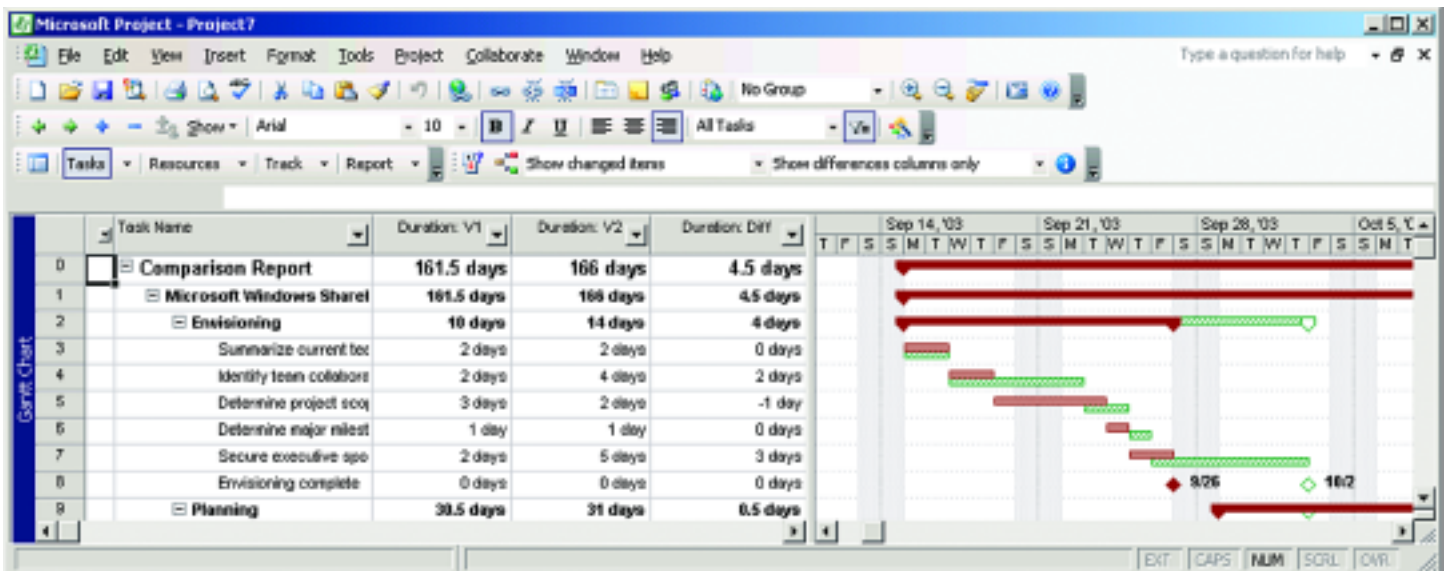

Figure 5: Sample comparison report for tasks
12. Click the **Close** button to close the legend dialog and view the comparison report. Figure 5 shows a sample report. The report has three columns for each field you displayed in step 4: